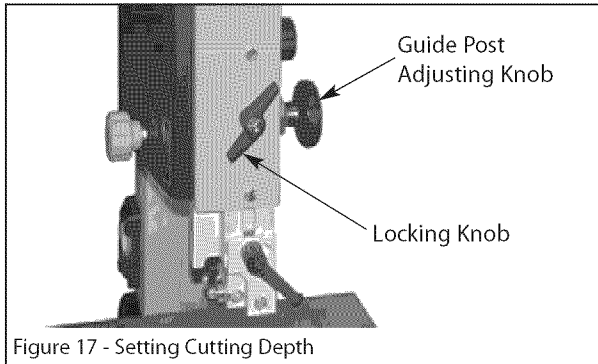

Figure 17 - Setting Cutting Depth
- To adjust this height, loosen the locking knob at the side of the upper wheel housing (see Figure 17).